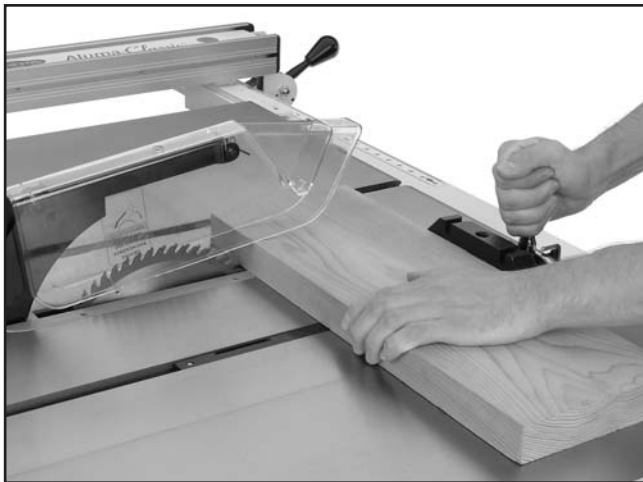

Figure 38. Crosscutting operation.
6. Hold the workpiece firmly against the face of the miter gauge and ease it into the blade as shown in **Figure 38**.